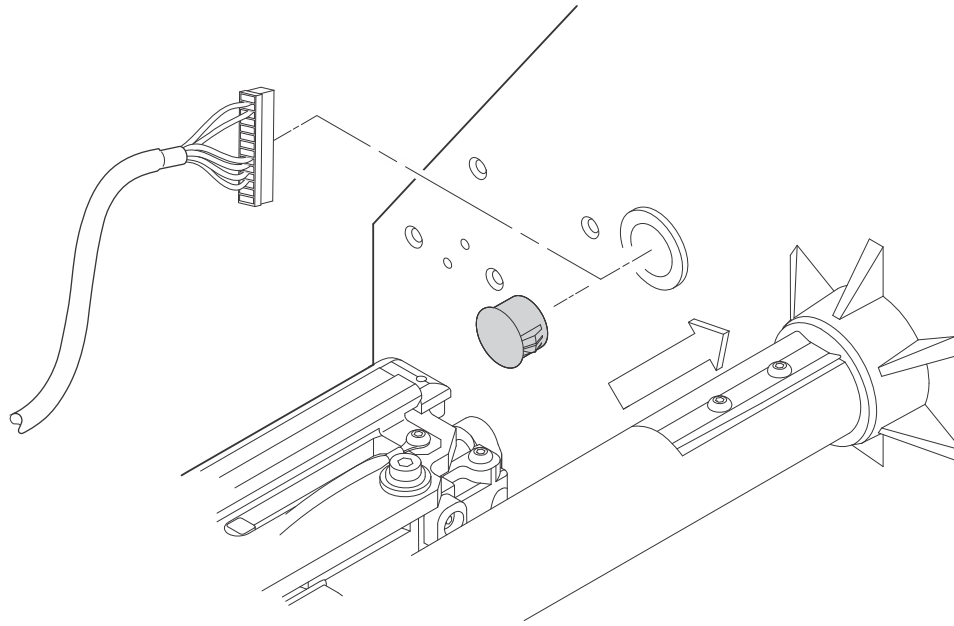

Figure 4 Routing the Power/Data Cable
7. Gently press the small wires of the P10 connector end of the power/data cable against the connector and route the connector through the frame opening. (Figure 4)